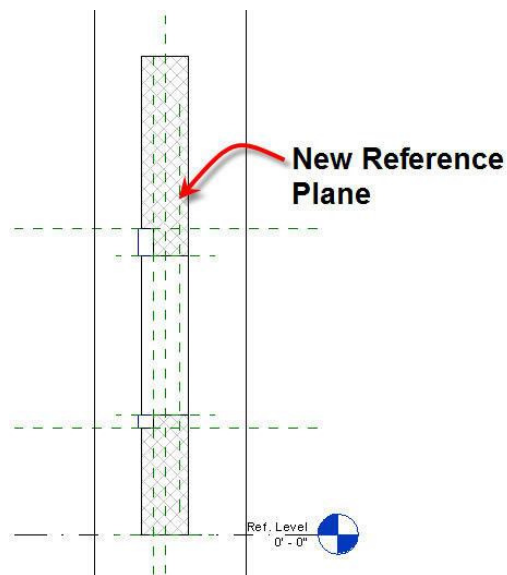

Figure 27. Creating the frame, muntin and glass Work Plane.
2. Draw a Reference Plane from top to bottom to the right (interior) of the wall centerline Reference Plane, so that the positive side of the Reference Plane will be to the exterior of the wall, as shown in Figure 27.